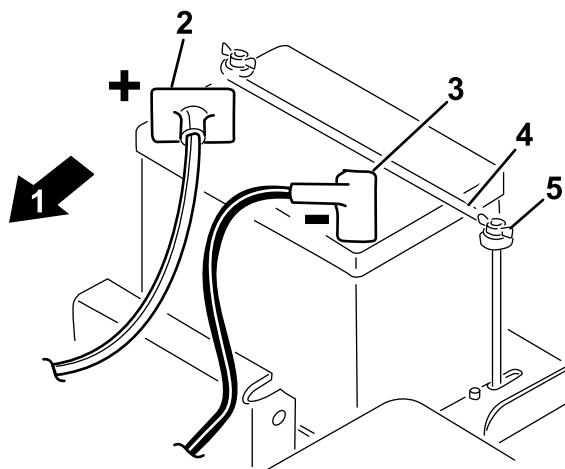

Figure 3
1. Mount the battery behind the seat with the battery terminals toward the front of the machine (Figure 3).
2. Connect the positive battery cable (red) from the starter solenoid to the positive post (+) of the battery (Figure 3). Secure it with a carriage bolt and nut.
5. Install the battery clamp and washers and secure them with wing nuts (Figure 3).